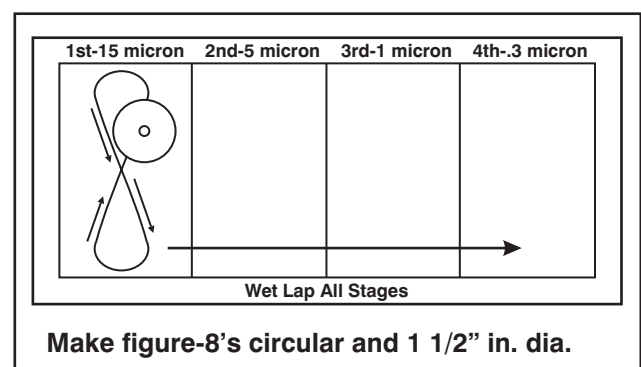

FIGURE 2 FIBER POLISHING
- 3.01 Insert connector ferrule into polishing puck and gently place onto 15 micron lapping film (see Figure 2). Using very light pressure, make 3 to 5 figure-8's until fiber
- 3.02 Repeat polishing using **5 micron** lapping film (See Figure 2).
- 3.03 Repeat polishing using **1 micron** lapping film (See Figure 2).
- 3.04 Repeat polishing using **.3 micron** lapping film (See Figure 2).